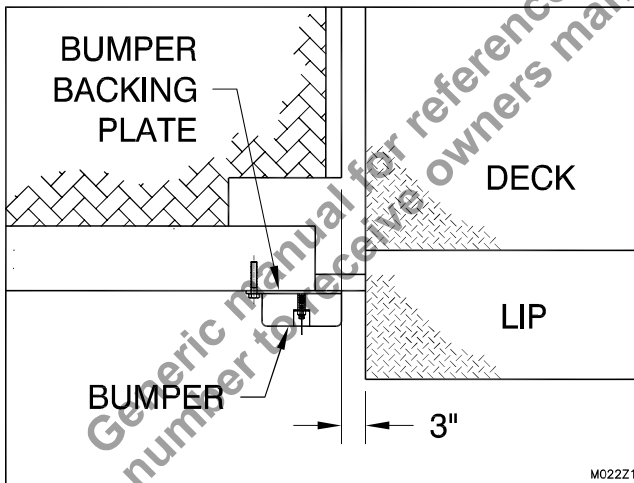

Figure 19: Bumper Position
21. ___ Position the bumper backing plates so that there is a 1” space between the bumpers and the dock leveler deck edge when the deck is in the lowered position (See “Figure 19: Bumper Position” on page 25). The bumpers may protrude into the pit opening. Weld or bolt bumper backing plates in place.
12. ___ Bumper Position (see “Figure 19: Bumper Position” on page 25)